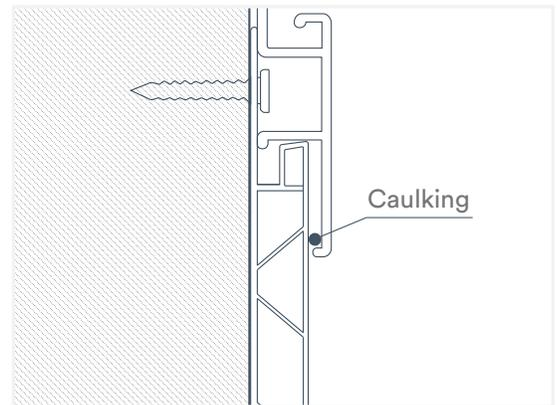

Fig. 32
2. If your installation is in a space with strong air movement, place a bead of silicone inside the bottom lip of the SlatWall panel where it meets the Wall&CeilingBoard panel(s) (Fig. 32). This ensures the panel will remain fixed in place. This step is optional.